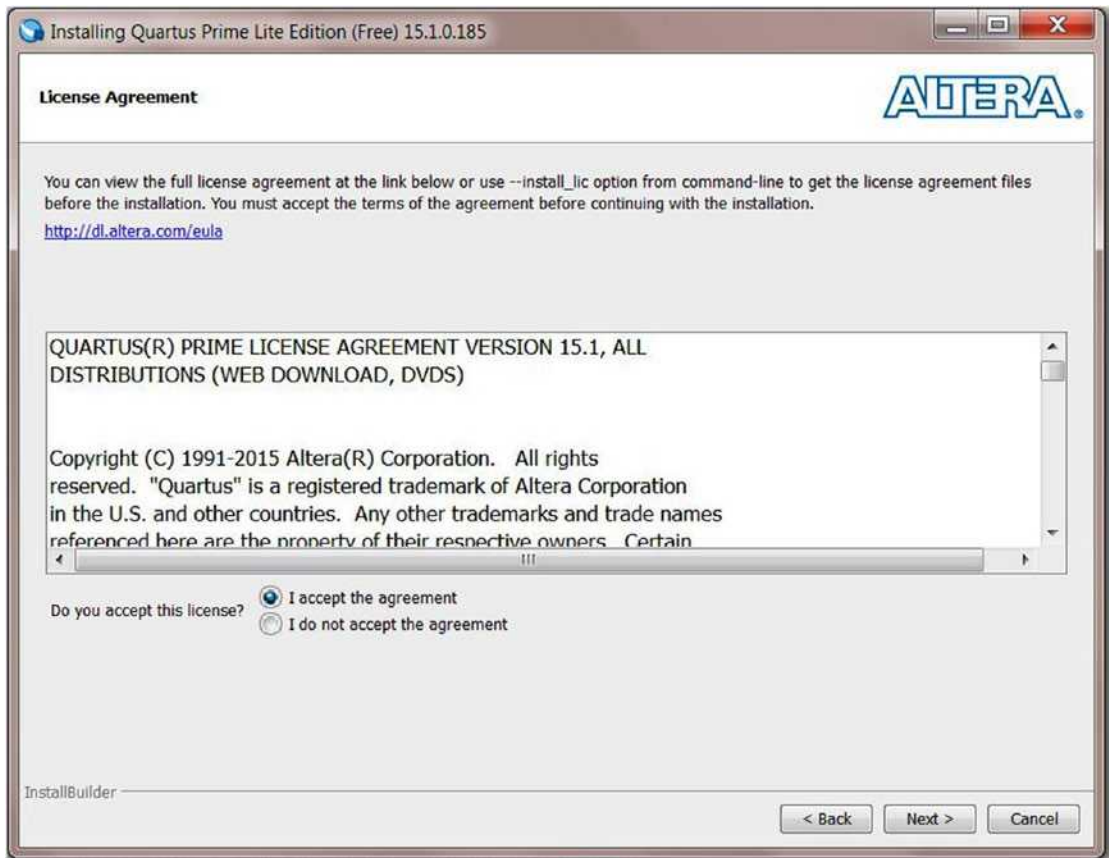

Figure 3-11. License Agreement
2. Click "I accept the agreement" and then click *Next* (Figure 3-11).